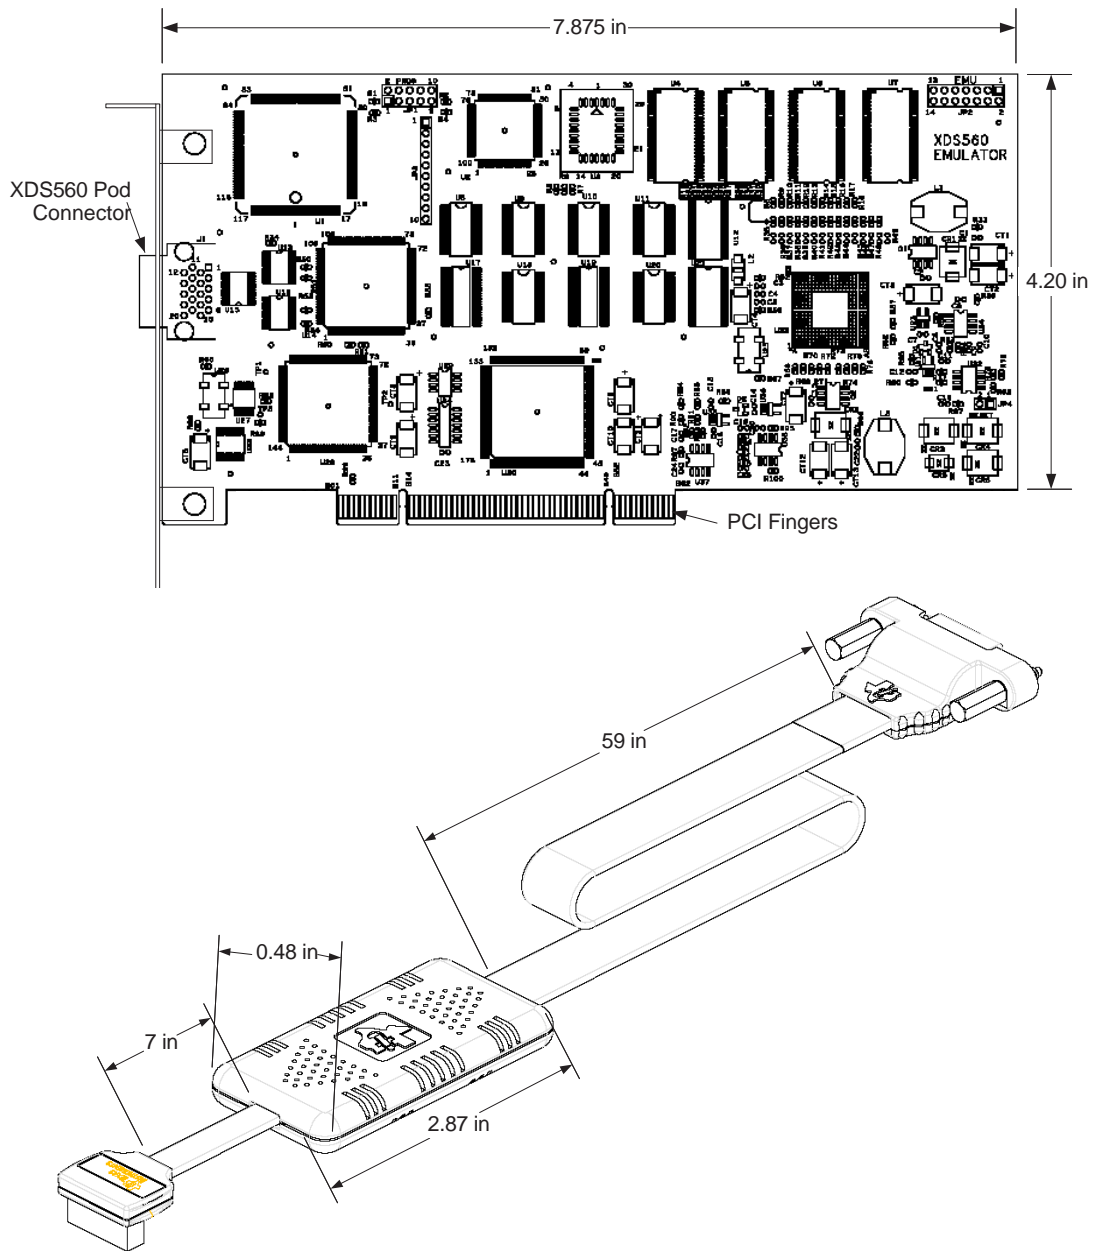
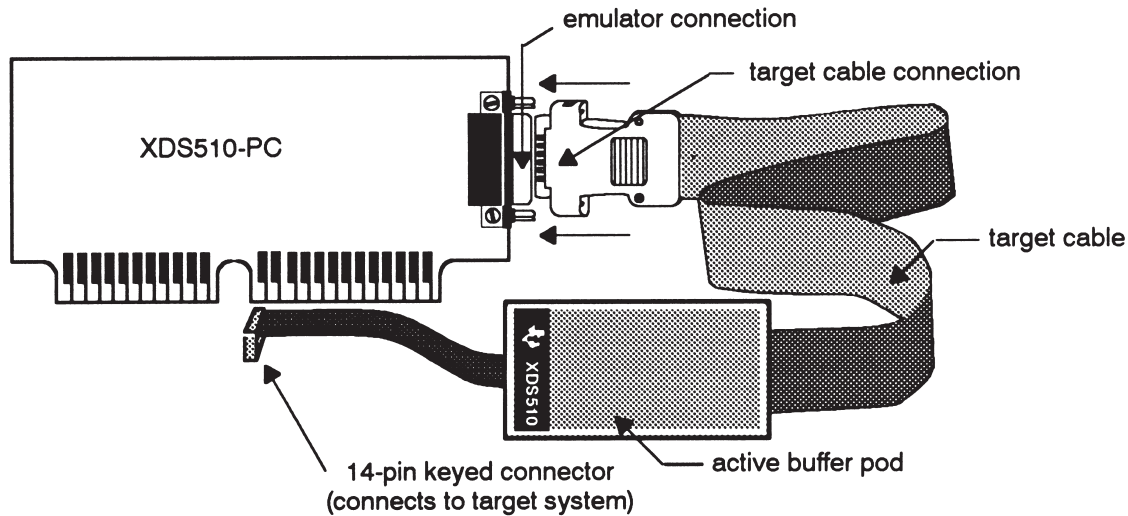

Figure 1. Connecting the XDS560 PCI Card to the Target System
Figure 2. Connecting the XDS510 ISA Card to the Target System
When using a personal computer (PC), the JTAG connection to the target processor can be made through several options including a PCI card (Figure 1), ISA card, (Figure 2), USB, PCMCIA, Ethernet, or many other options. This information regarding the scan control is available to the PC host via dynamically linked libraries (DLLs).